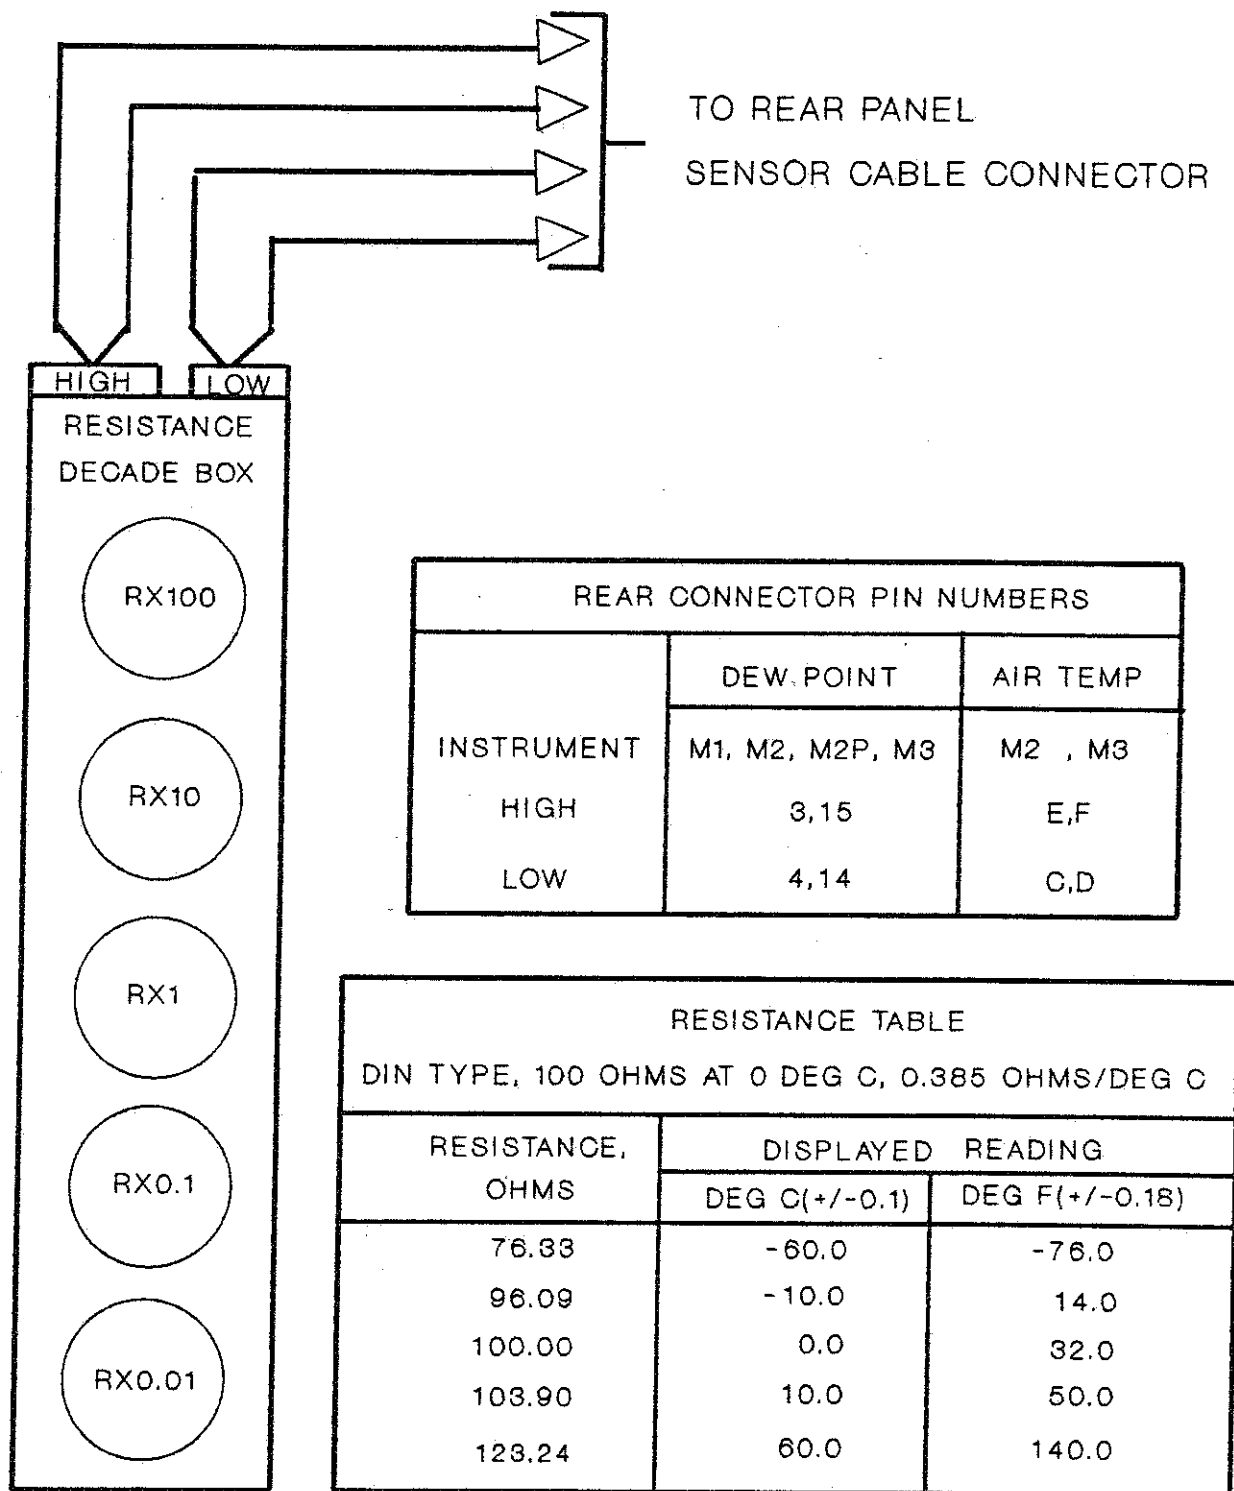

Figure 5-4. Wiring Configuration for Resistance Decade Box
1. Connect one of the decade boxes through the dew point input connector, on the rear panel of the M2. (See Figure 2-3 for the location of the dew point input connector.) Use the wiring configuration shown in Figure 5-4.
2. Connect the other decade box through the temperature input connector, on the rear panel of the M2. (See Figure 2-3 for the location of the temperature input connector.) Use the wiring configuration shown in Figure 5-4.
4. Connect the resistance box to the temperature input connector on the rear panel, as shown in Figure 5-4.